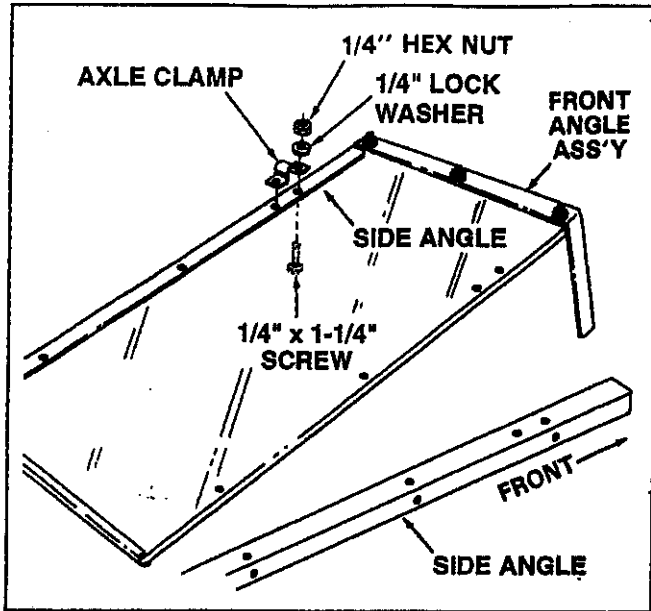

FIGURE 3
- Turn the front angle assembly and bottom panel upside down as shown in figure 3.
- Lay the two side angles on the bottom panel so that the two holes for the axle clamps are closer to the front angle assembly. See figure 3.
- Secure both axle clamps to the side angles and the bottom panel using four $1/4"$ x $1-1/4"$ screws, lock washers and hex nuts. Make only finger tight until axle is assembled. See figure 3.